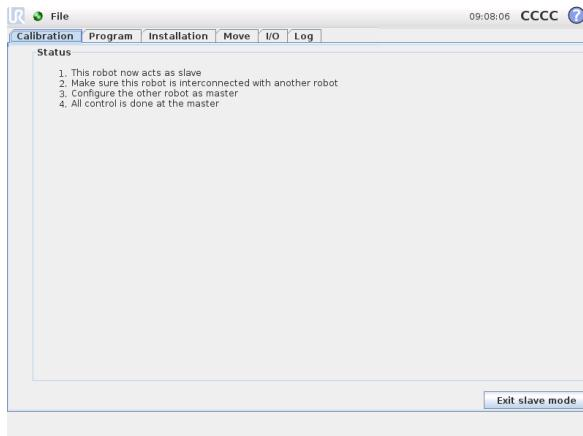
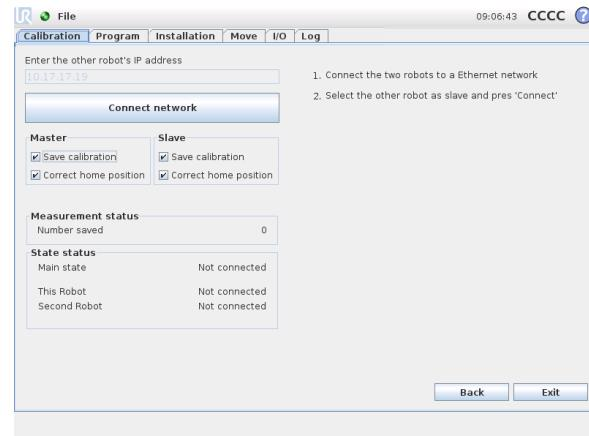

Figure 2.10: Slave mode
Figure 2.11: Master mode
- (8) When the slave (Robot 2) is ready and have entered the screen in Figure 2.10, press *Connect network* on the master to establish the network connection, see Figure 2.11. The screens that follow are described in Section 2.7.